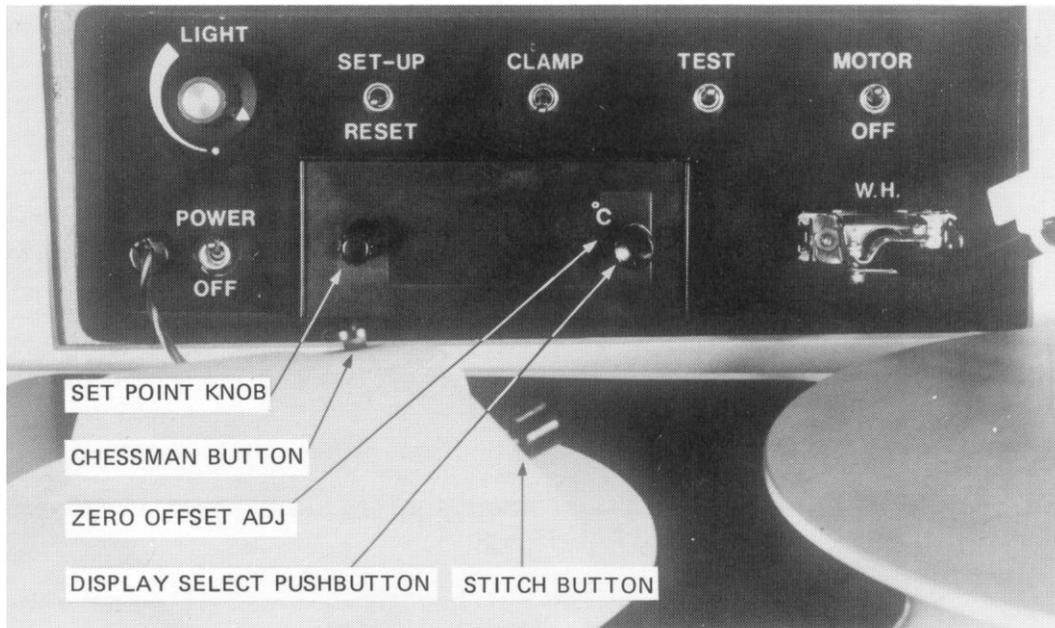

FIG. 4-1 LEFT CONTROL PANEL
4.1.1 LEFT PANEL (Fig 4-1) controls basic machine functions and houses the workholder jack and the temperature controller: